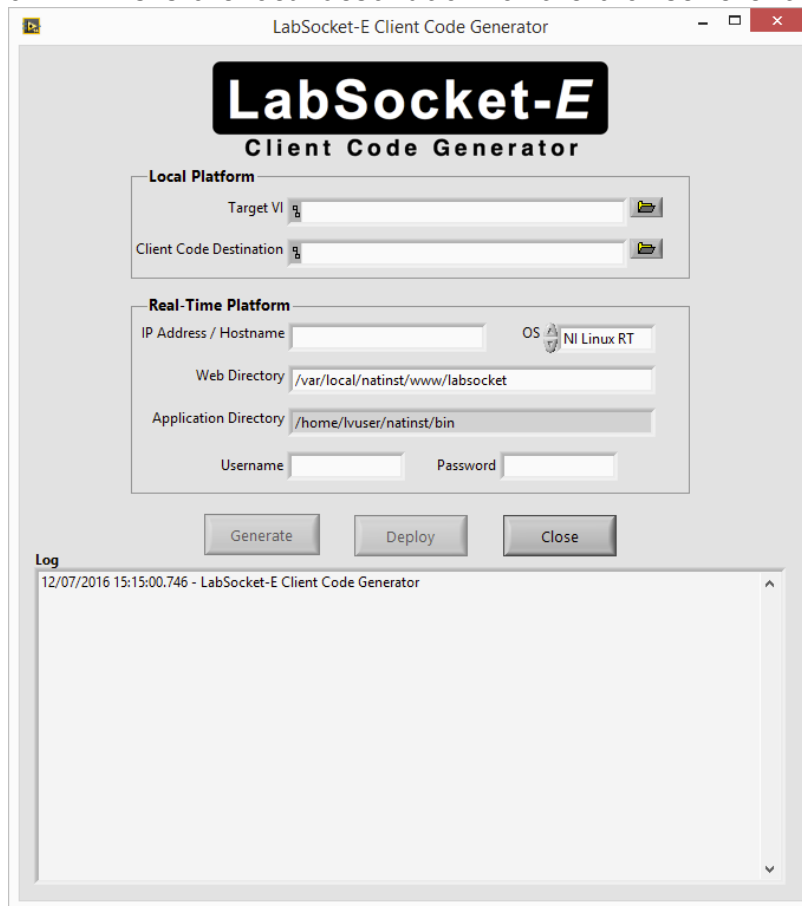

Figure 6.3. LabSocket-E Client Code Generator
1. Select **Tools > Bergmans Mechatronics > LabSocket-E [Student and Home Edition] > LabSocket-E Client Code Generator....** The LabSocket-E Client Code Generator window (Figure 6.3) will open.